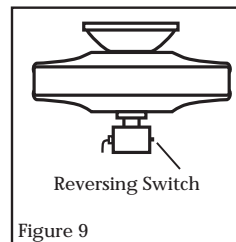

Figure 9
- To reverse airflow direction, turn fan off and wait for the blades to come to a full stop, then slide reversing switch to opposite position. (Figure 9)